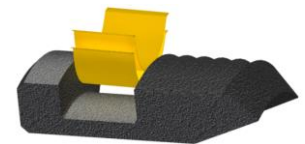

Fig. 3
**NOTE8:** Install two (2ea) springs per slip (Fig. 3)